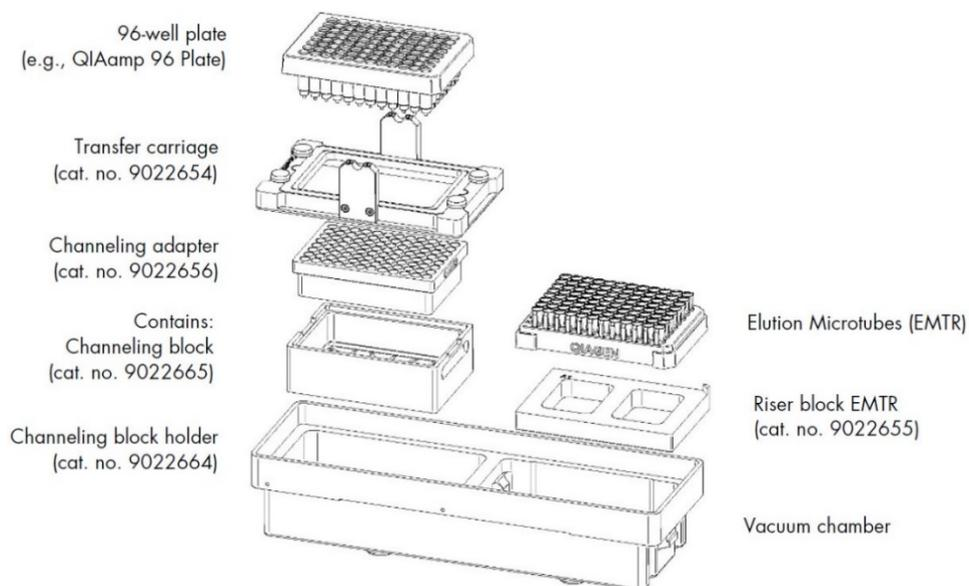

Figure 3. Assembling the vacuum chamber.
Figure 3 illustrates the assembly of the vacuum chamber. For further information, please refer to the *QIAcube HT User Manual*.
15. Prepare the vacuum chamber as shown in Figure 3 (page 13). The assembly is also described in the *QIAcube HT User Manual*.